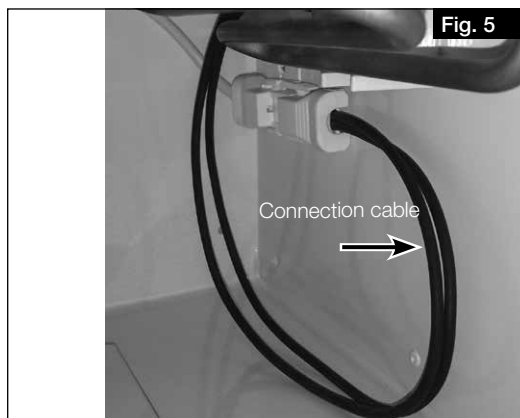

Fig. 5
6. Stick the provided adhesive sockets to the side of the unit wall (see Fig. 5)